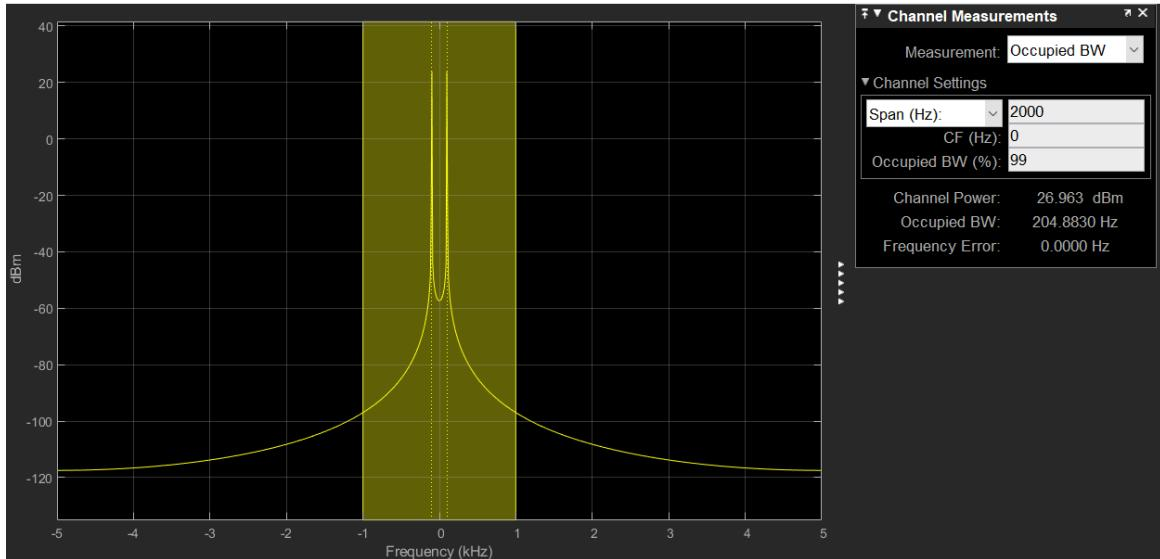

Figure 2. Source spectrum with a sine wave source.
- 1) For the first part, we set the source as a sine wave with 100 samples per period, sample time of 1e-4 and an amplitude of 1. We then observed the source spectrum as shown in figure 2. With the help of Channel Measurements, we can clearly see that the power is 26.963 dBm and bandwidth is 204.883 Hz.